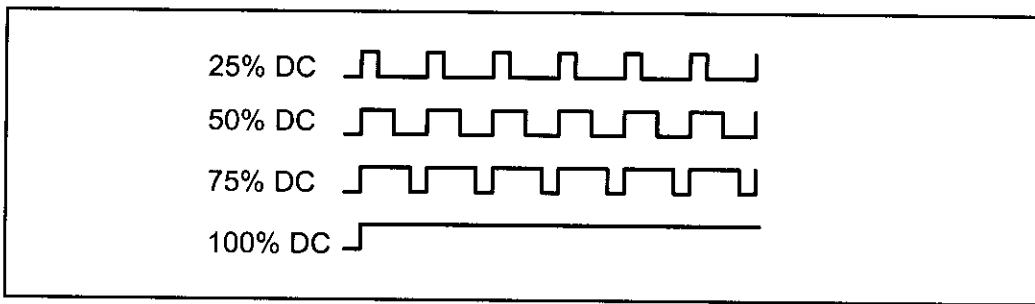

Figure 15-13. Period and Duty Cycle
Another feature of CCP is pulse width modulation (PWM). The PWM feature allows us to create pulses with variable widths. Although we can program timers to create PWM, the CCP module makes the programming of PWM much easier and less tedious. PWM is widely used in industrial controls such as DC motor controls, as we will see in Chapter 17. Indeed the PWM is so widely used that Microchip has enhanced the PWM capabilities of the newer generation of the PIC18 family members and has designated them as ECCP (enhanced CCP). We will study ECCP in the next section. The main difference between ECCP and standard CCP is the PWM capability. In creating pulses with variable widths for the PWM, two factors are important: The period of the pulse and its duty cycle. The duty cycle (DC) is the portion of the pulse that stays HIGH relative to the entire period. Very often the DC is stated in the form of percentages. For example, a pulse with a 4 ms period that stays HIGH for 1 ms has DC of 25% ($1 \text{ ms} / 4 \text{ ms} = 25\%$), as shown in Figure 15-13.